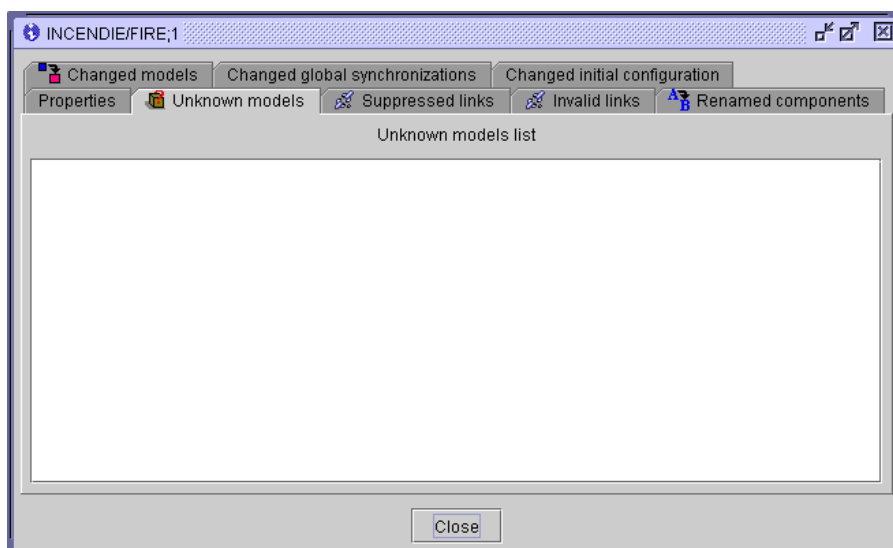

Figure 148 : Information –Unknown models tab
- The *Information* window (Figure 148) is displayed: it contains four tabs:
- Click on the **Unknown models** tab (Figure 148) the window displays the list of unknown models.